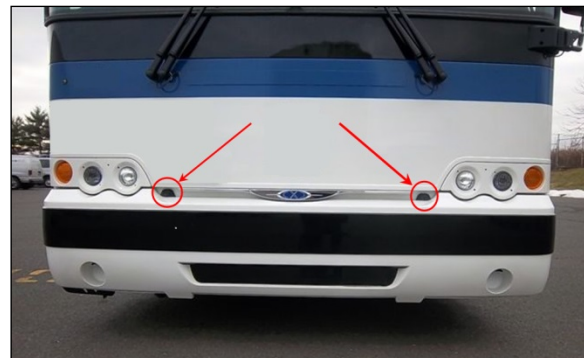

FIGURE 6: BUMPER TOP RETAINING BOLTS
4. Re-install front bumper retaining bolts #5001878. (Fig. 6)